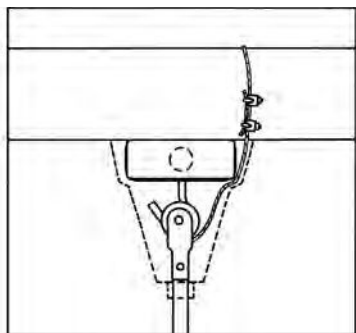

Figure 3
9. This fan is equipped with the required “secondary support” cable. This cable must be affixed to the beam structures and securely clamped in such a manner to support the weight of the fan in the event the mounting hook or other parts fail. After wrapping cable around a structural member that will support 300 lbs., secure cable with supplied cable clamps as illustrated in Figure 3. (Note: Any additional materials needed for specific installations may be purchased from your local distributor.)
IMPORTANT CAUTION: The safety cable must not be placed between the rubber roller and hook but as illustrated in Figure 3.
10. When hanging fan on factory supplied “J” hook, make sure cable at top of rod is positioned behind “J” hook as illustrated in Figure 3.